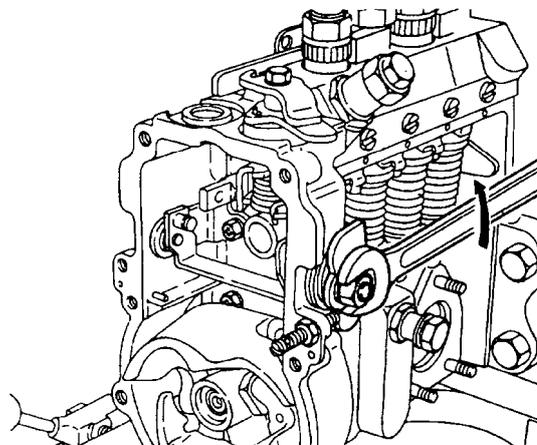

Figure 89 Full-load Setting Lever Retaining Nut Removal
- l. Remove the nut securing the full-load setting lever to the U-shaped lever (Figure 89) and remove the full-load setting lever together with the return spring.